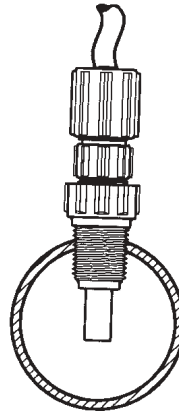

Figure 2.4
- Pipe corrosion can result if dilution at the injection point does not occur rapidly. This problem is easily prevented by observing this simple rule: install injection fitting so that the end is in the center of the flow stream of the line being treated. Trim injector tip as required. See Figure 2.4.